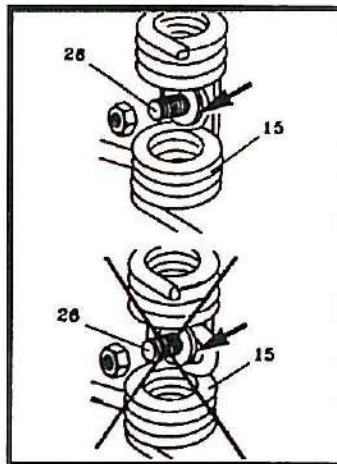

Fig. 19. Correct settling of the raking teeth.
- Pay special attention while fastening loosen or changed teeth 15. The central inflexion of the tooth should rest on the bolt 26 (Fig. 19.), because that is the condition of proper working and resistance to breaks.